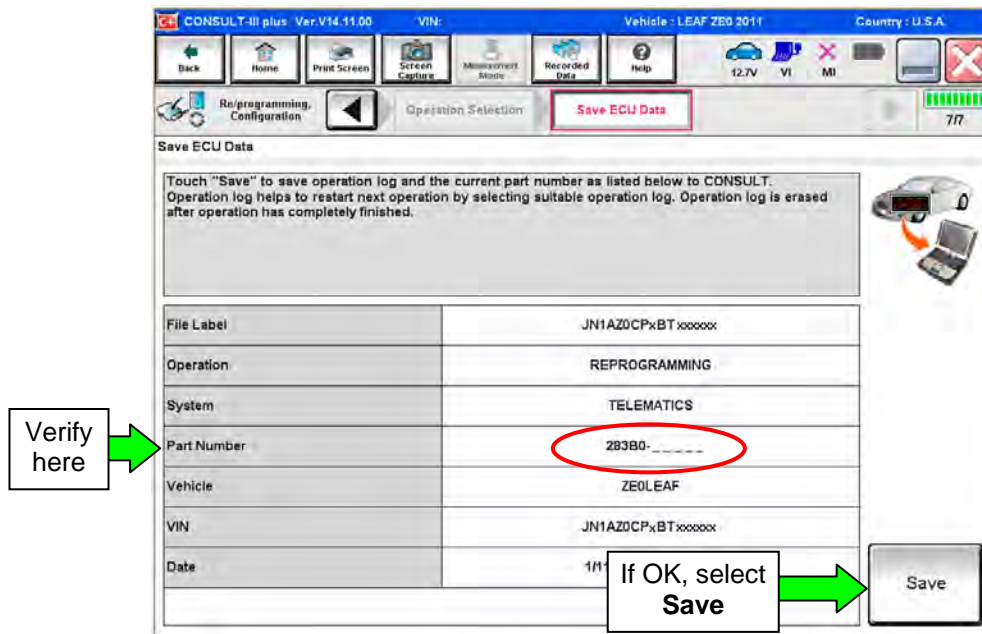

Figure 25
29. Write down the **Part Number** on the vehicle's repair order from Figure 25 and confirm if it matches one of the part numbers in Table "B" below.